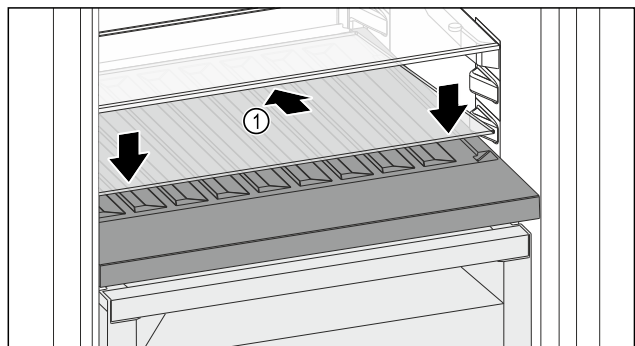

Fig. 179
- ▶ Place the glass shelf Fig. 179 (1) at an angle, sloping it downwards and backwards.
- ▶ Lower the glass shelf Fig. 179 (1) at the front.